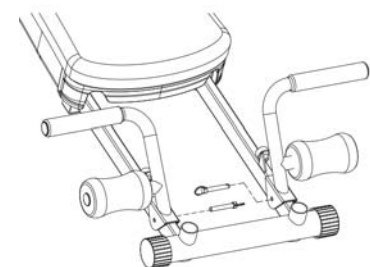

FIGURE 5
3. Insert the 2 Short Hitch Pins through the holes on the Wing Attachment Brackets and the hole on the Rails, as shown in Figure 5.